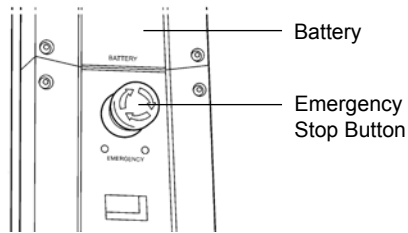

Fig. 2
6. Clip the battery onto the control box and ensure the red emergency stop button, located on the controller is in the out (ON position) by turning clockwise (Fig. 2).